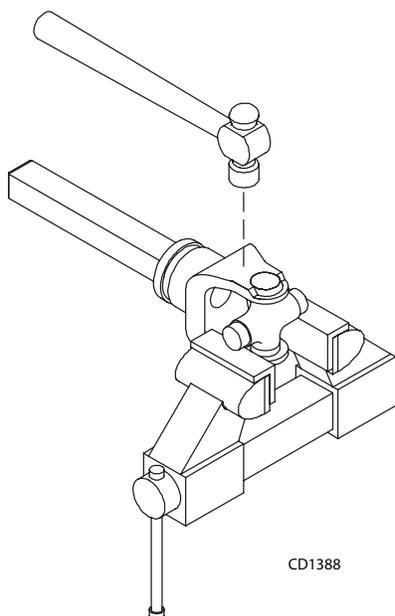

Figure 19
4. Place universal cross in vise as shown in Figure 19 and tap on yoke to remove cup. Repeat step three for final removal. Drive remaining cup out with a drift and hammer.